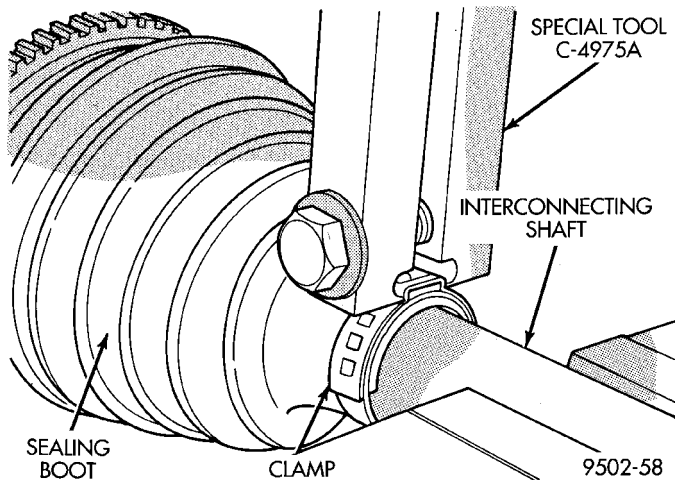
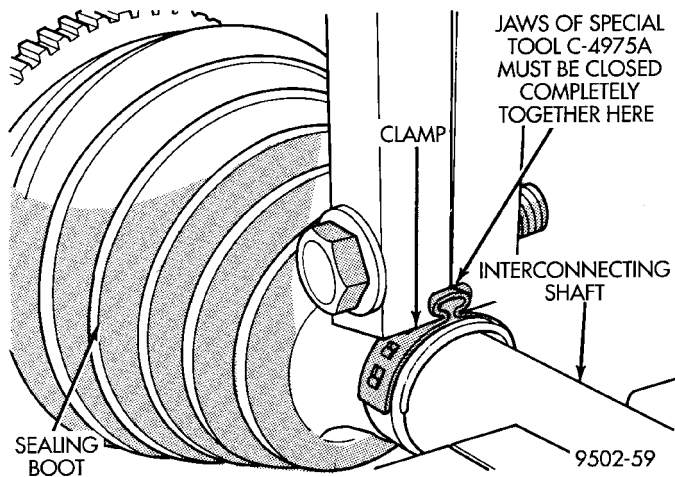

Fig. 35 Crimping Tool Installed on Sealing Boot Clamp
Fig. 36 Sealing Boot Retaining Clamp Installed
(6) Install inner tripod joint seal boot to interconnecting shaft clamp evenly on sealing boot.
(7) Clamp sealing boot onto interconnecting shaft using crimper, Special Tool C-4975-A and the following procedure. Place crimping tool C- 4975-A over bridge of clamp (Fig. 35). Tighten nut on crimping tool C- 4975-A until jaws on tool are closed completely together, face to face (Fig. 36).